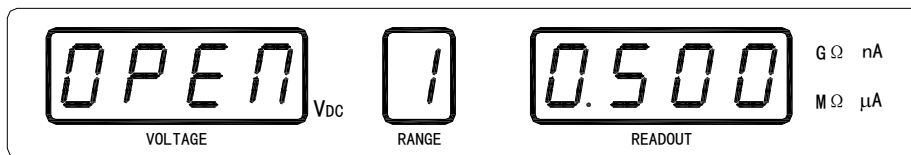

Figure 3-14 Open Correction Measurement Value
- 2) Press **CLEAR** key in the discharge status, and following information will be displayed as shown in the figure 3-14. "OPEN" message will be blinking in the voltage window, and the open correction measurement value (mV) of the current range will be measured and displayed in the readout window.